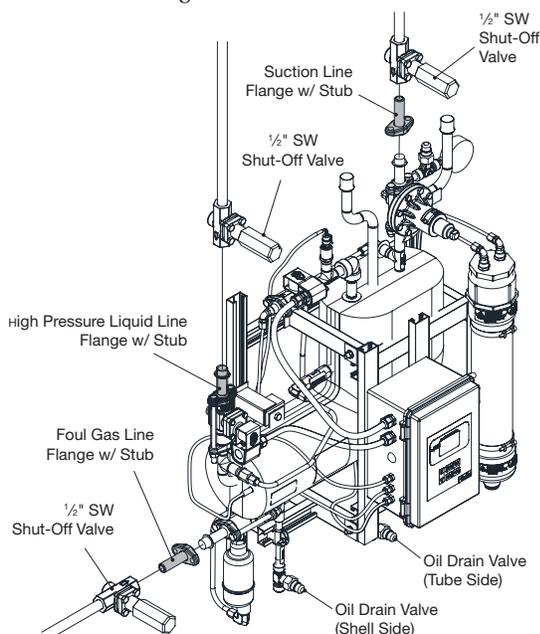

Figure 6: Purger Flange Line Connections
4. Remove the purger flange connections, with the welded stubs, from the high pressure liquid, foul gas and suction line. The flanges are highlighted, in gray, in Figure 6.
10. Check and verify both oil drain valves, shown in Figure 6, are closed by removing the seal cap and turning the adjustment stem clockwise. If the adjustment stem does not move it means the valve is fully seated. Do not over tighten; it can damage the seat and be a potential leak point.